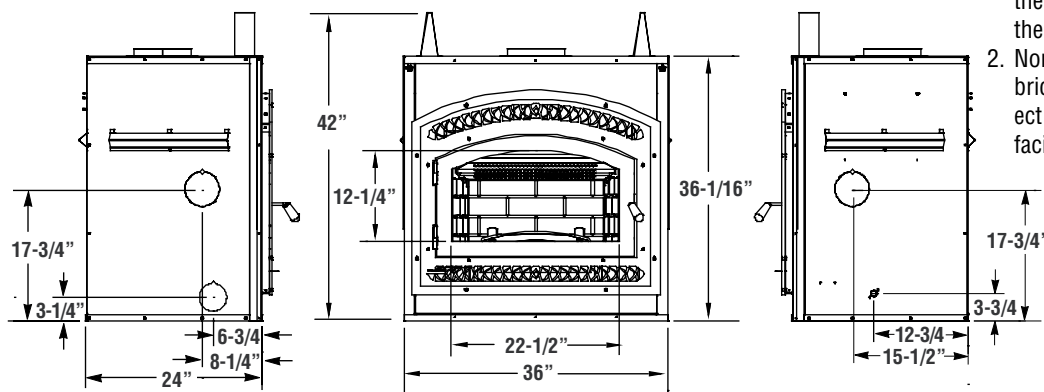

Figure 8 - Framing Dimensions
- C. Frame the fireplace with vertical studs at the sides of the fireplace running from floor to ceiling (see **Figure 8**). If combustible facing is to be used, position the studs back, from the front edge of the fireplace (a space that is the thickness of the facing material, so that the facing can be installed flush with the fireplace facing). Frame headers between the vertical studs only as follows: